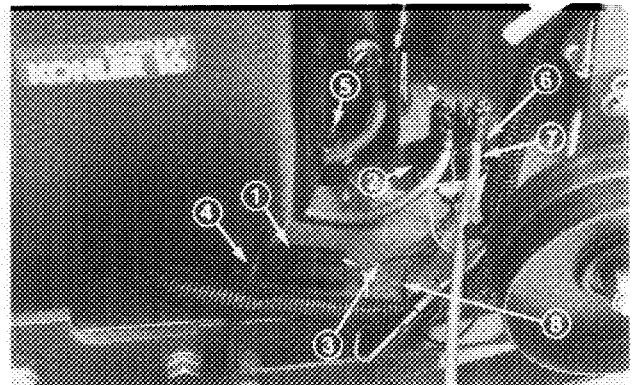

Figure 8
2. At left side of engine, secure male and female clutch connectors (Fig. 8).
3. Remove locknut from left rear engine mounting bolt. Secure negative, black battery cable and ring terminal wire from clutch connector to left rear engine mounting bolt with locknut removed (Fig. 8).
4. Secure remaining ring terminal wire from wire harness and positive, red battery cable to rear terminal of starter solenoid with a 1/4-20 locknut (Fig. 8).